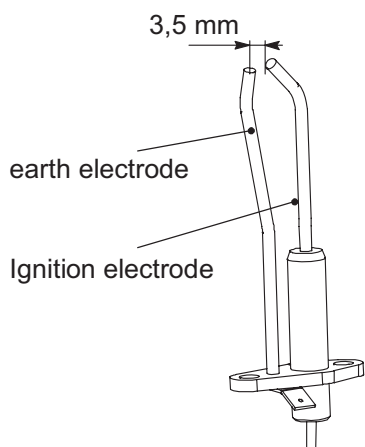
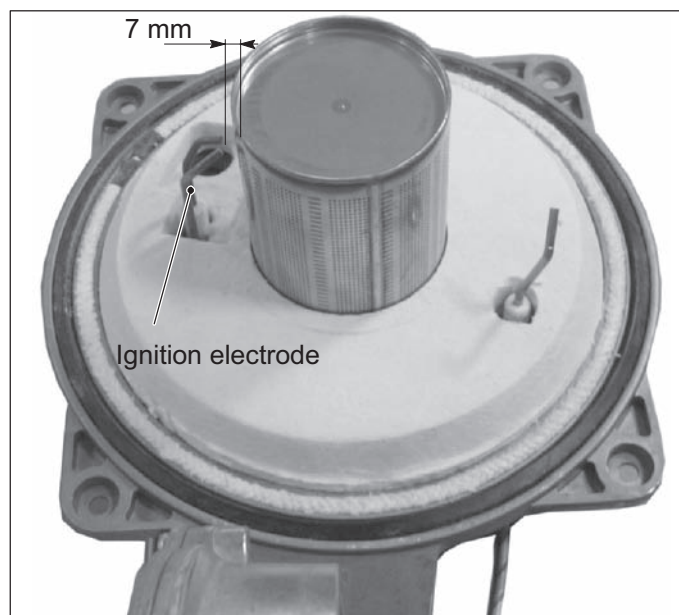

Figure 18.7
Figure 18.8
- 2 Check for the correct distance between the metallic edges of the ignition electrode (see **Figure 18.7** - **Figure 18.8**).